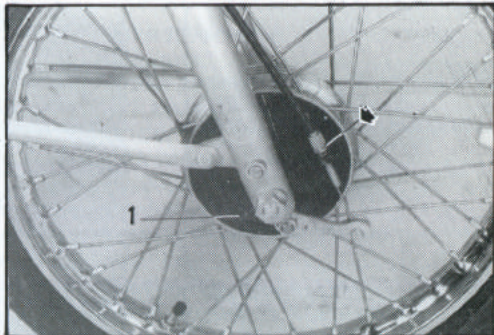

Fig. 23
Adjust the front brake (Fig. 23) and the rear brake (Fig. 24) so there is (1/8 in) 3 mm. play (Fig. 25) between the levers and their supports. Both the front and rear brake drums (Fi. 23 and 24) are provided with inspection windows (1), to facilitate checking the brake linings for wear.